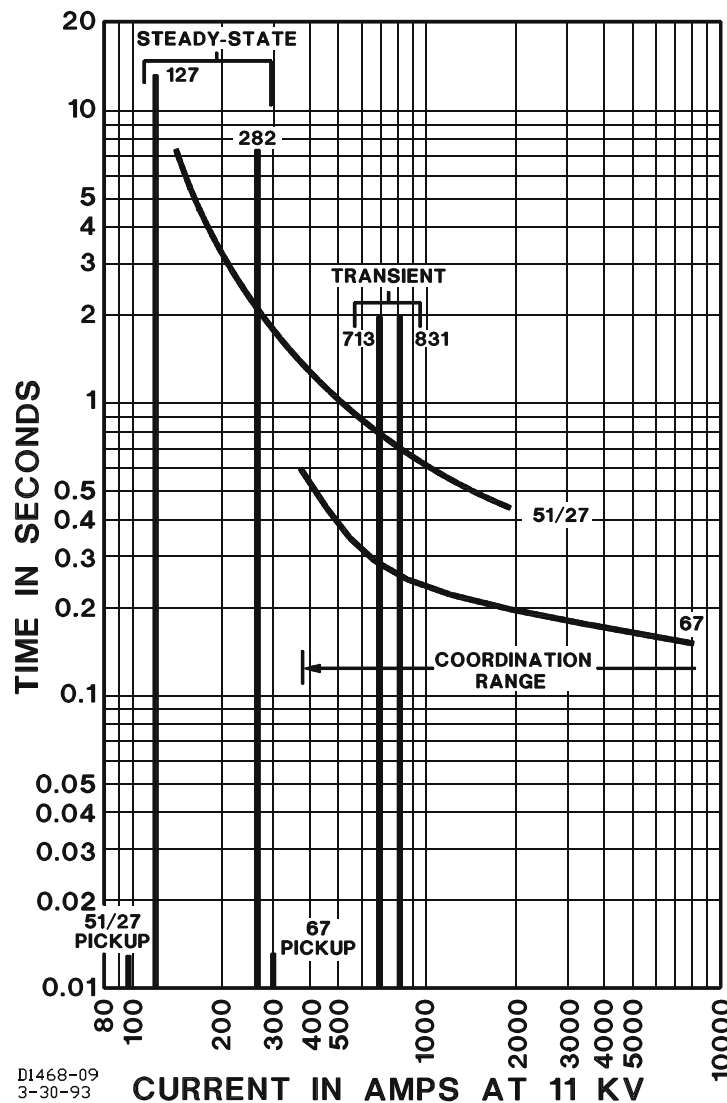

Figure 4-17. Relay 51/27 Coordination with Relay 67 for Fault 3 Example
- (2) 67 Relay time at 2.4 multiples: 0.26 s.
- (3) 51/27 Relay transient level voltage (reactor and transformer T1 drop): 8% so the time element is operative.
- (4) 51/27 Relay multiples at transient level:  $\frac{713}{97} = 7.4$
- (5) 51/27 Relay transient level time at 7.4 multiples and **TIME DIAL** setting of 22: 0.72 s.
- (6) 51/27 Relays coordinate with 67 Relays for a high-side fault at the transient level. However, it appears that the current may drop below the 67 Relay pickup (300 amperes) before this relay can operate. Should the 67 Relays fail to operate, the 51/27 Relays will trip the generators. Figure 4-17 plots these two relay characteristics. If the generator is fully loaded at 194 amperes with a 0.85 PF, the superposition of this current and the fault current at -90° yields a total current of 831 amperes at the transient level and 282 amperes at the steady-state level with no regulator boosting. The relays are selective down to about 350 amperes.
- (7) Assuming that the 67 Relays will not operate for fault 3, the generators will be unnecessarily tripped if the line relaying fails to operate or if breaker R fails to interrupt the fault. Redundant line relaying will minimize the need for generator tripping. Use of a breaker-failure timer set to about 0.25 seconds would avoid generator tripping for a failure of breaker R to interrupt.